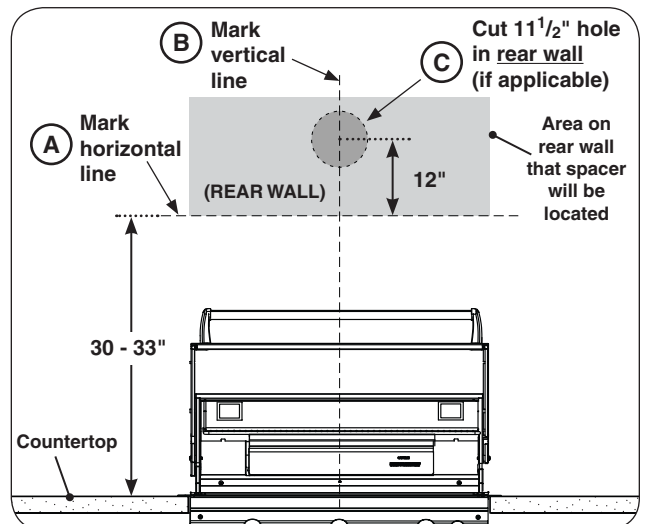

Fig. 12-4 Determine spacer location, create rear cutout
2. Determine the install location of the spacer (30-33" above the countertop) and pencil in a horizontal line on the rear wall. Locate the "left-to-right" center, and pencil a vertical line. See Fig. 12-4, A-B.
3. If venting from the rear of the vent hood, **a cutout through the rear wall is required for venting.** Mark a point on the vertical line 12" up from the horizontal line and drill an 11 1/2" hole through the rear wall (see Fig. 12-4, C).